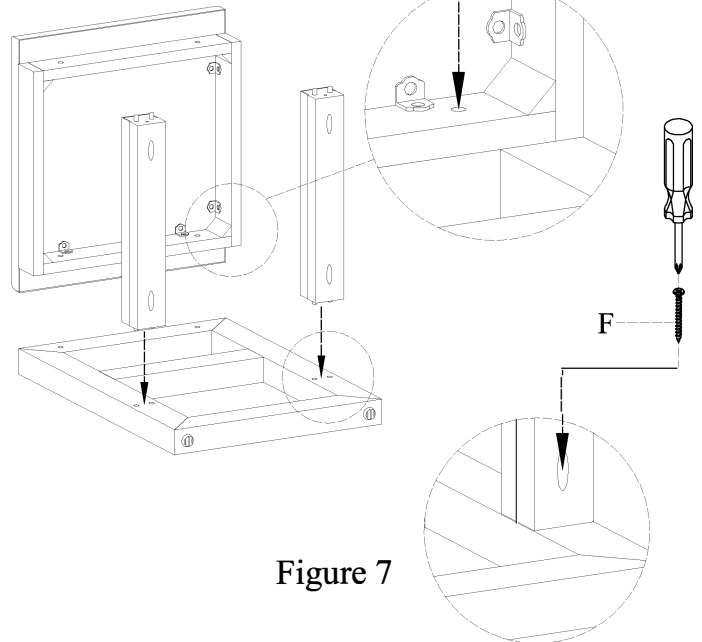

Figure 7
8. Attach the stretchers to the leg frame using Screw (F), and tighten with Phillips screwdriver. As Shown in Figure 7.